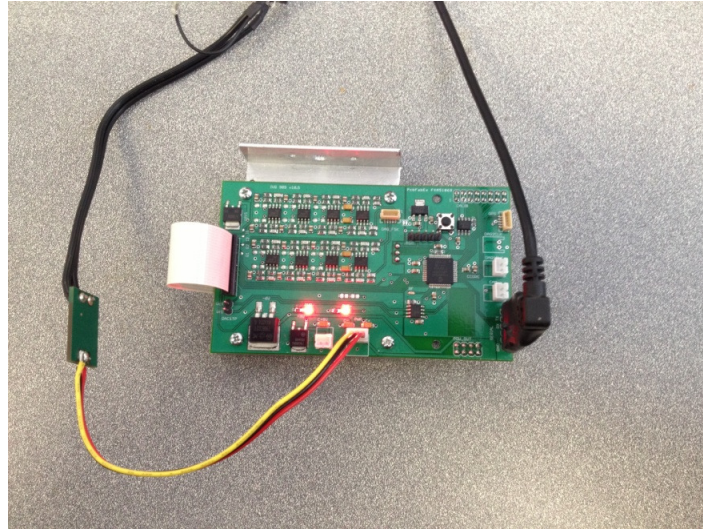

Figure 3: Device with power LEDs activated.
Step 3: Plug in the power source (either a 12V wall supply or a 12V battery) to the single to dual supply adapter. Two red power LEDs should illuminate as seen in Figure 3.